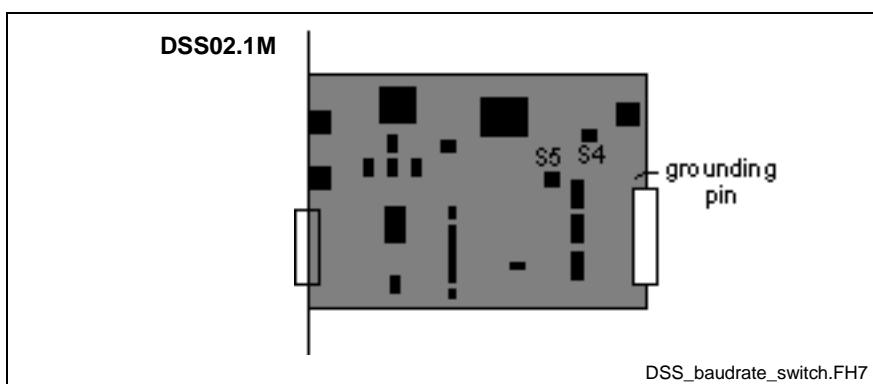

Fig. 9-11: DIP Switches on DSS02.1M
DIAX04 (DSS02.1M) The transmitter output power (TX) on the DSS02.1M is set via DIP switches S5A and S5B. Refer to Fig. 9-11.